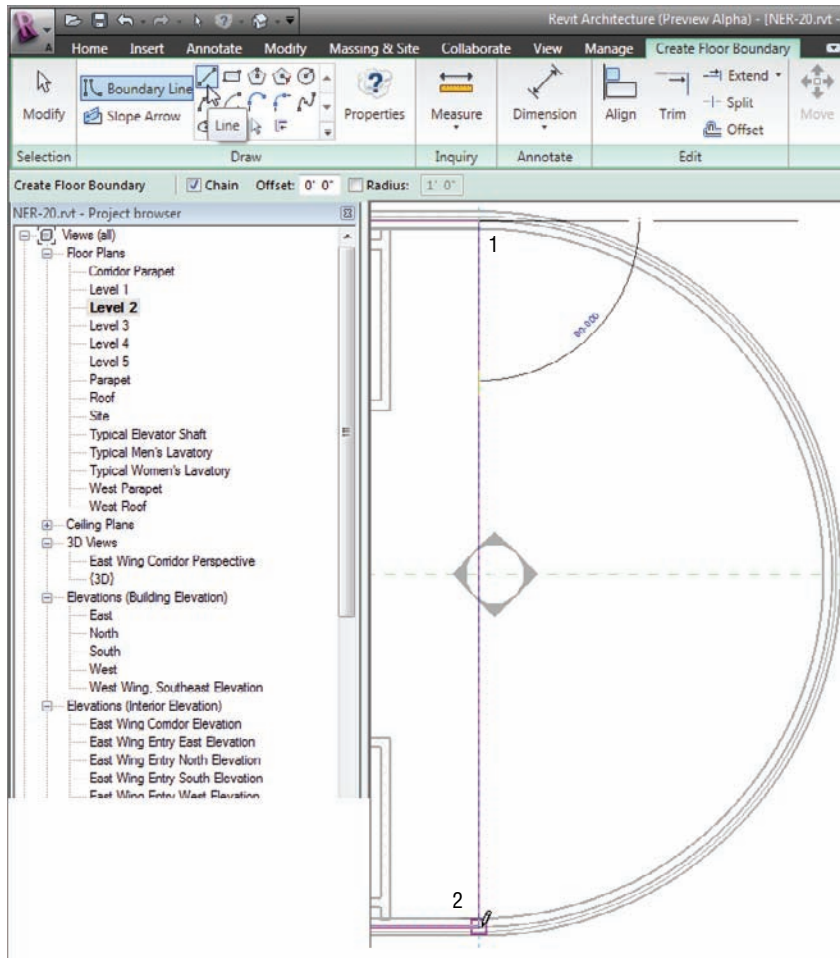

FIGURE 6.26 Sketching a line for the east portion of the entry slab
4. Draw a line from the endpoint of the magenta line at the north wall of the east entry (see 1 in Figure 6.26), to the endpoint of the magenta line in the south wall (see 2 in Figure 6.26).